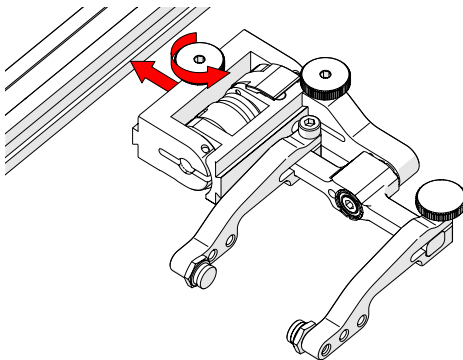

Fig. 130 - Attach to frame bar
1. Rotate the probe holder adjustment knob and attach the probe holder to a frame bar (Fig. 130).